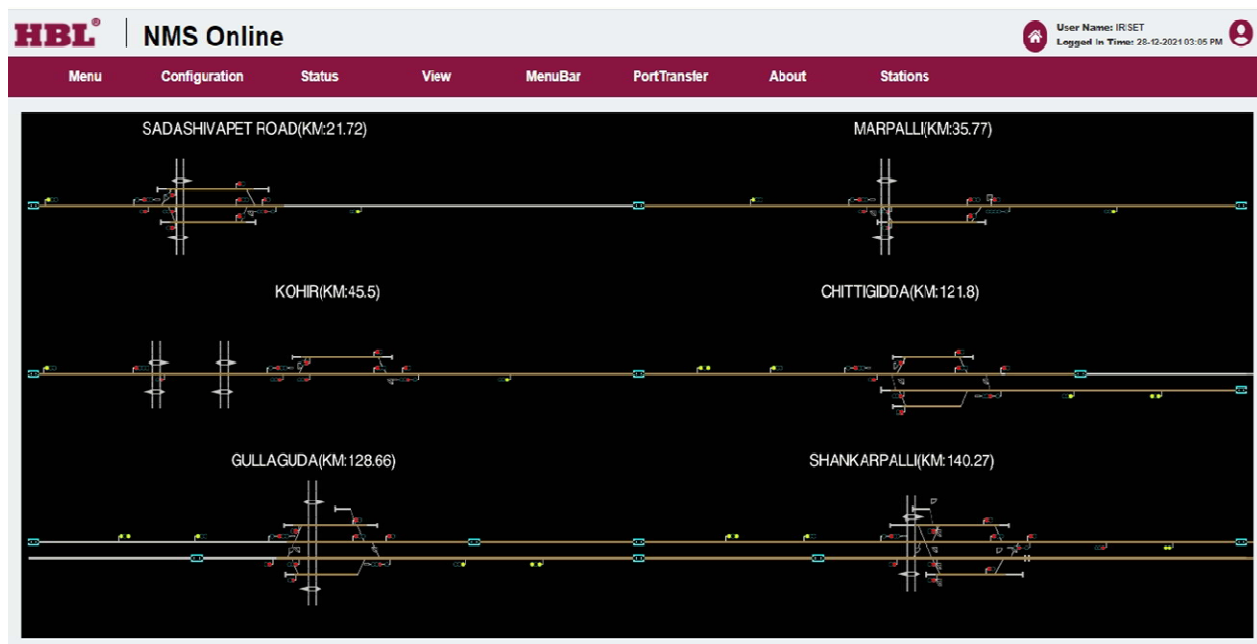

Fig 4. Yard Layout
2. After selection of yard on station selector page a complete layout as per selection will be visible with station name in white on the screen as shown in fig 4.